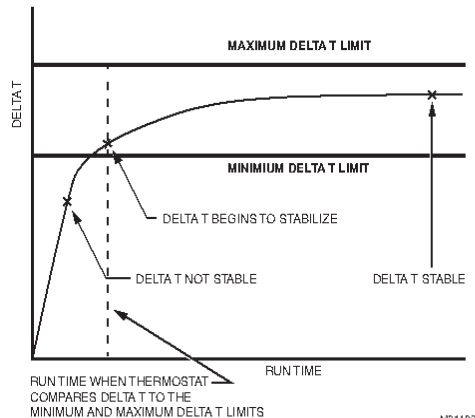

Fig. 7.
2. In gas or oil forced air systems, Delta T will continue to rise for several minutes even after Delta T begins to stabilize. Be sure the Maximum Delta T Limit is set higher than the expected stable Delta T. See Fig. 7.